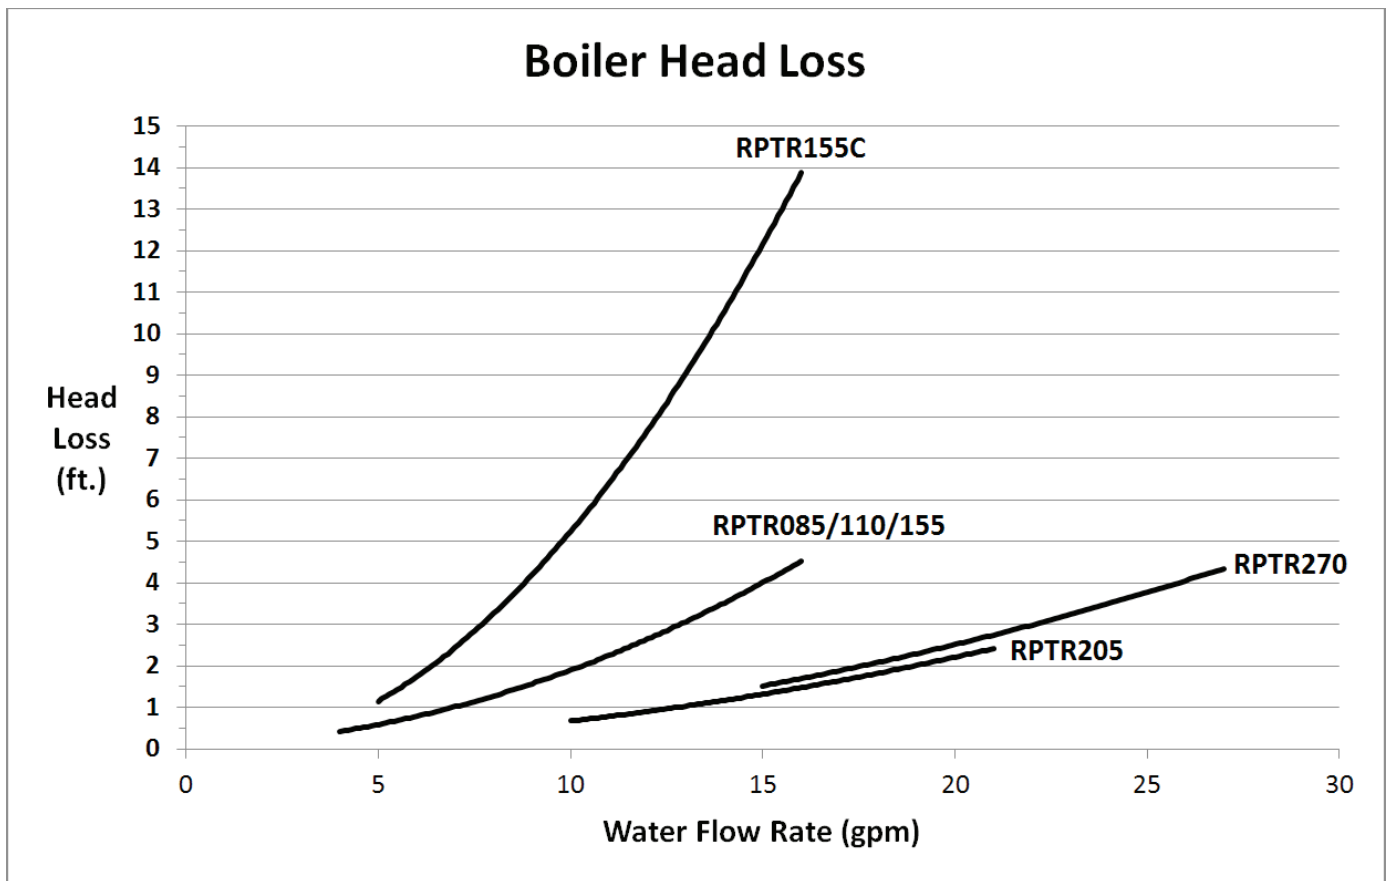

Figure 9.4: Boiler Head Loss
2) Boiler Loop Piping – Size boiler circulator to maintain flow requirements listed in Table 9.3. Boiler head loss is provided in Figure 9.4. Recommended circulators for 60 equivalent feet of boiler loop piping are listed in Table 9.5a and Table 9.5b.